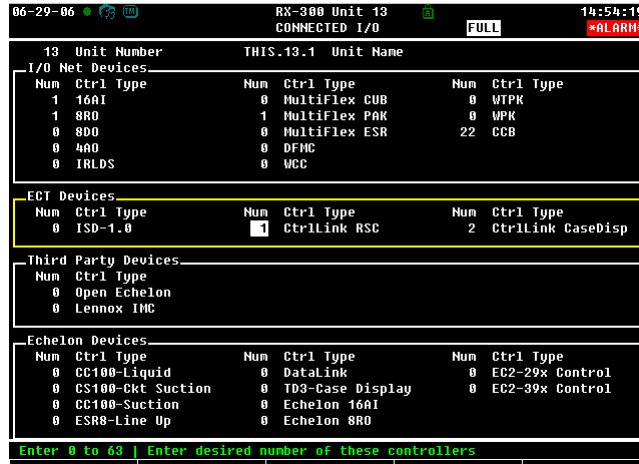

Figure 4 - Connected I/O Screen
2. Press & & & - “Connected I/O Boards and Controllers.” (Figure 4)